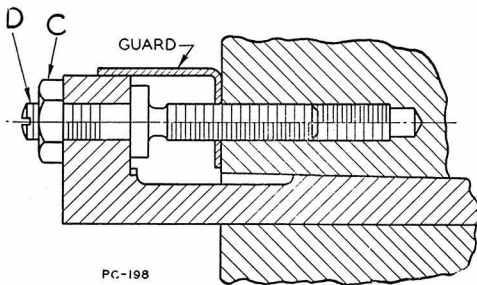

Figure 22
**Adjusting the Gibs.** Two types of gibs, shown in Figs. 22 and 23, are used to take up the wear between the sliding units. The amount and method of adjustment, however, are about the same for each type. Adjust the gib inward (the screws have right hand threads) and try the movement of the unit with the hand crank.